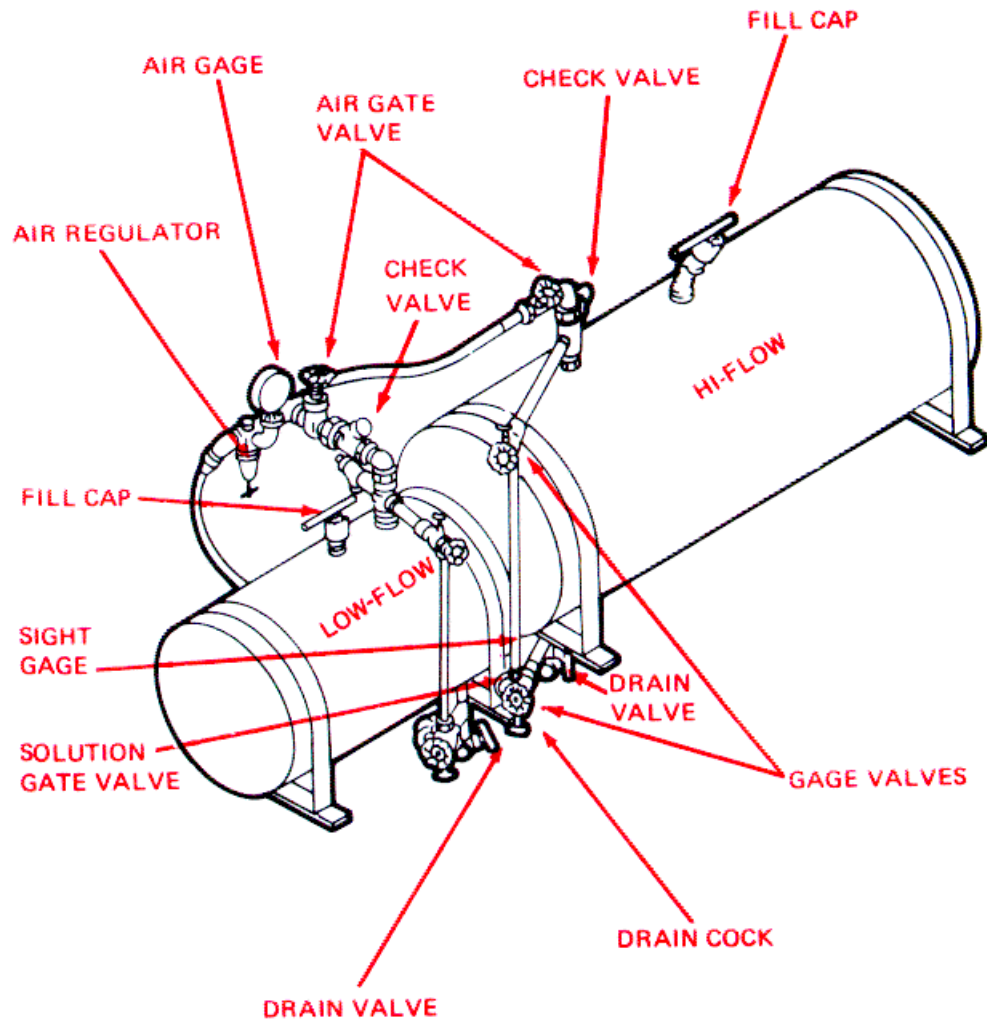

Figure 2-32. Opening the Liquid Admix Tanks.
- a. Set Liquid Admix Controls. (See fig. 2-32)
- (1) Adjust air pressure. Turn the T-handle on the air regulator until the gage reads 14.5 to 15.5 psi.
- (2) If you plan to use the hi-flow admix system, open the hi-flow air and solution gate valves.
- (3) If you plan to use the low-flow system, open the low-flow air and solution gate valves.